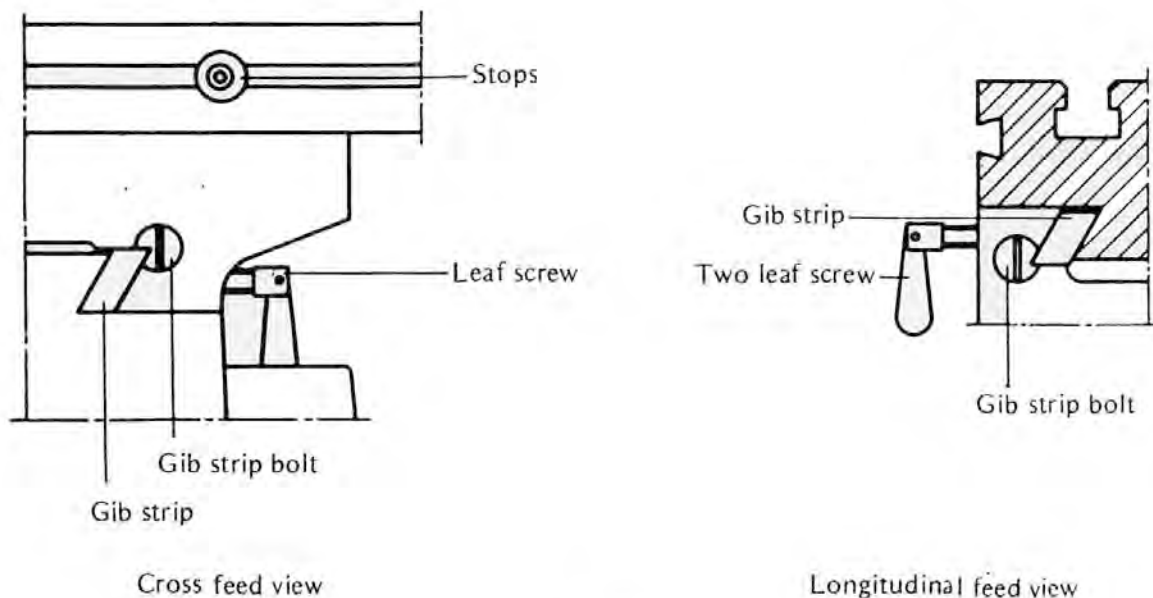

Fig. 3
7. ADJUSTING TABLE SLACK AND COMPENSATE FOR WEAR (see fig. 3)
- (1) Your machine is equipped with Jib strip adjustment to compensate for wear and excess slack on cross and longitudinal travel.
- (2) Clockwise rotation the job strip bolt with a big screw for excess slack otherwise a little counter clockwise if too tight.
- (3) Adjust the jib strip bolt until feel a slight drag when shifting the table.
8. CLAMPING, TABLE BASE, AND MACHINE BASE (See Fig. 3)